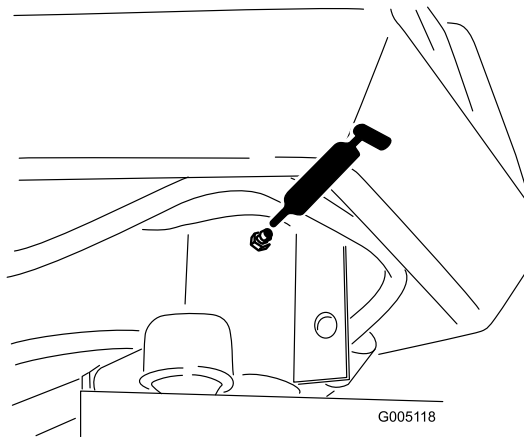

Figure 40
- Steering fork shaft (1) (Figure 40)
- Rod end (Figure 40)